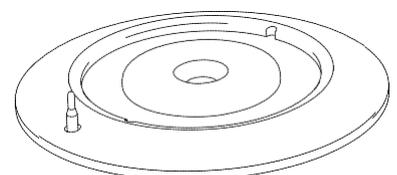
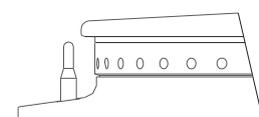

Figure 10 – Aluminium Burner Bezel
Figure 11 – Flame Sensor
- Clean any spillage from aluminium bezel (Fig 10), ensuring all food and cleaning material debris is removed. Dry aluminium bezel thoroughly, taking care not to damage flame sensor. (Fig 11)
Important - Do not allow any spillage or cleaning material debris to enter the large hole in the aluminium burner bezel. (Fig 10)